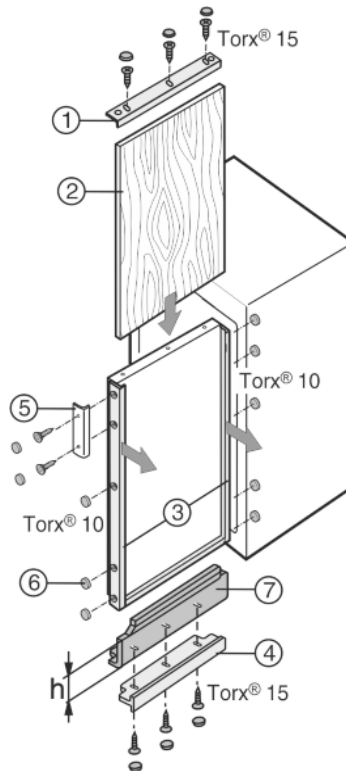

Fig. 40
If a décor panel is already there but not tall enough, you can adjust it with different height adapter panels Fig. 40 (7).
- ▶ Unscrew the décor frame *Fig. 40 (1, 4)* at the top and bottom.
- ▶ On all other décor frames *Fig. 40 (3)*, just loosen the screws and slide the frames forward.
- ▶ Slide in the décor panel *Fig. 40 (2)*.
- ▶ Attach adapter trim *Fig. 40 (7)* to bottom or top.
- ▶ Put the décor frame *Fig. 40 (1, 4)* over the trim and screw tight.
- ▶ Slide back the décor frame *Fig. 40 (3)* and screw tight.
- ▶ Screw on the handle *Fig. 40 (5)*.
- ▶ Click the cover caps *Fig. 40 (6)* onto all the screw heads.